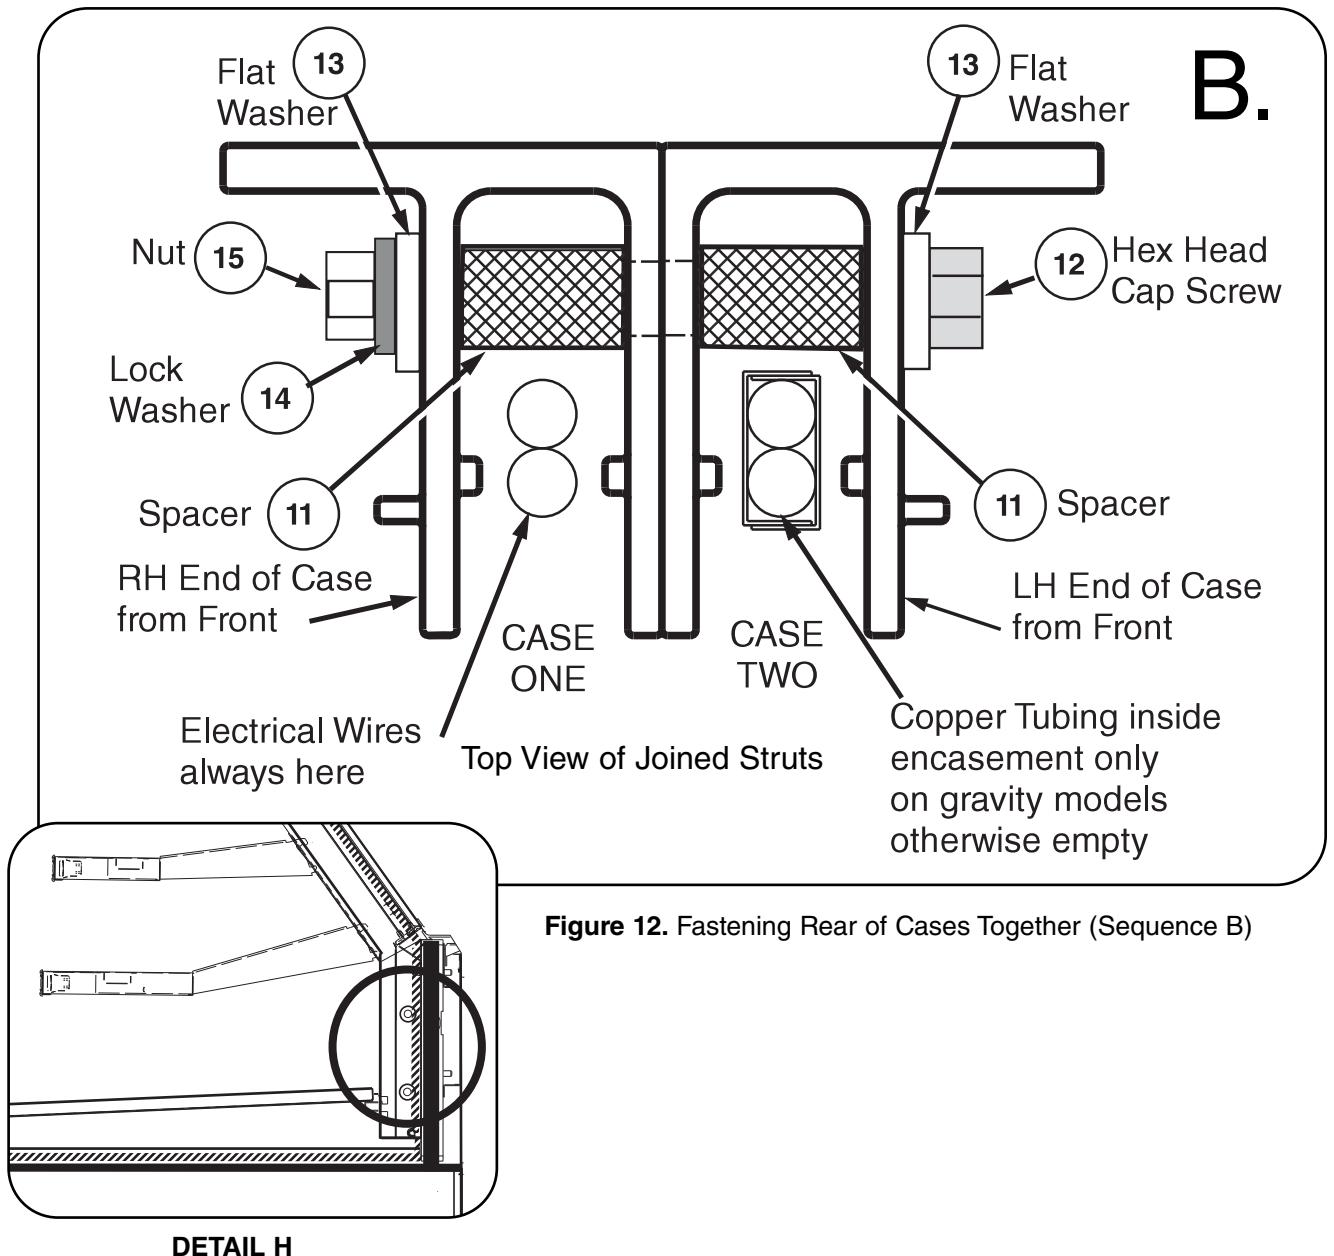

Figure 12. Fastening Rear of Cases Together (Sequence B)
- 14** Fasten the rear of the cases together at two locations shown below using, Spacers (Item – 11), Cap Screws (Item – 12), Flat Washers (Item – 13), Lock Washers (Item – 14) and Hex Nut (Item – 15). See Figure 12. Detail H.